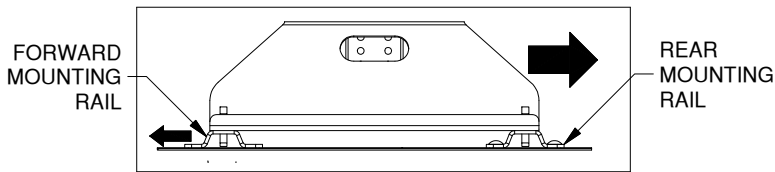

Figure C2: Side view of RV base and mounting rails.
**IMPORTANT:** Before drilling forward mounting holes pull the RV base towards the rear of the truck and push the forward rail towards the cab of the truck to correctly space the mounting rails, see Figure C2.